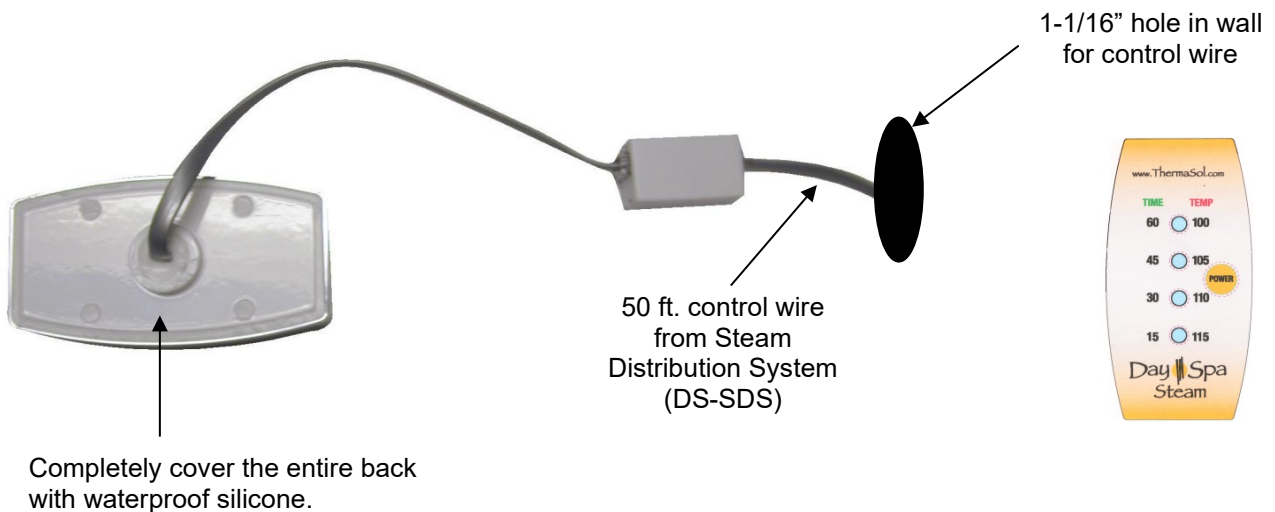

Figure 6
6. Test the touch pad to ensure it is properly connected. If any problems arise, call **THERMASOL- Technical Support (800) 776-0711**.
7. **THESE STEPS MUST BE TAKEN OR YOUR WARRANTY WILL BE VOID.** Coat the entire control back with supplied waterproof silicon. Completely seal the control to the wall so moisture does not get behind it. Place the control on the wall pressing firmly. You may need to tape the control into place until the silicone dries. Be careful not to harm the wall and/or control with the tape. **(Figure 6)**